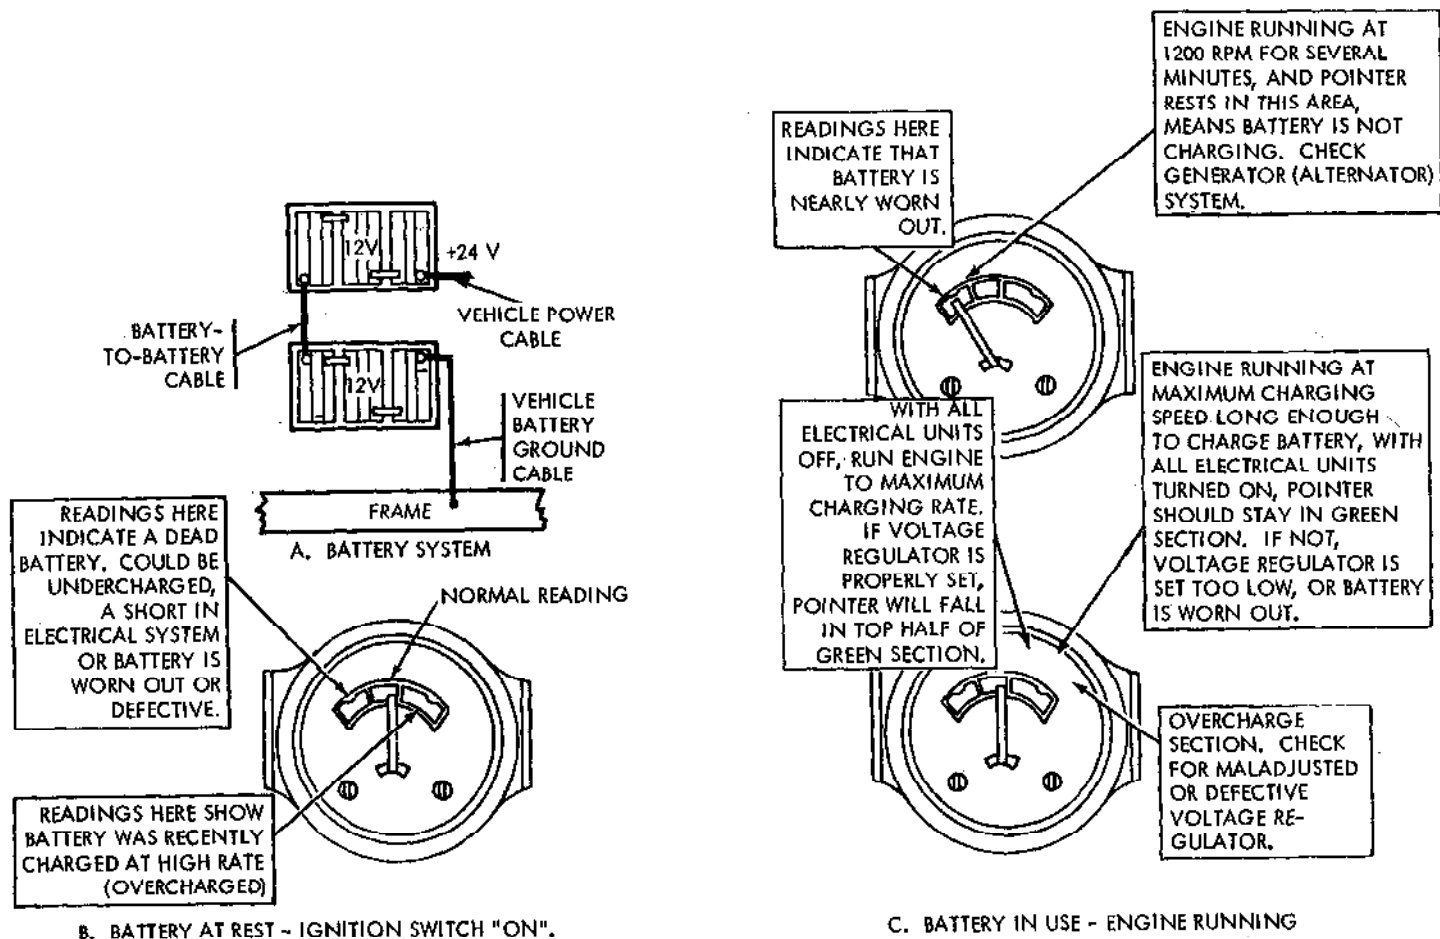

Figure 2-15. Interpretation of battery-generator indicator gage.
a. Preliminary Battery Check. The vehicle battery condition should be checked prior to performing any electrical checks in the vehicle. The vehicle has two 12-volt batteries connected in series, furnishing 24 volts to the electrical system (fig. 2-15) which uses a negative (—) ground and a positive (+) power feed to the electrical components. To test the battery condition, turn the ignition switch to ON (without starting the engine). Observe the battery indicator (fig. 2-15). Start the engine, accelerate to about 1200 rpm, and again observe the battery indicator. If the indicator observations show that further tests are required, refer to the Electrical Troubleshooting tests, Battery System (fig. 2-17).
(1) Hold the hydrometer vertically, so the float does not touch the sides of the glass barrel. Be certain that the barrel is not so full of electrolyte that the float is stopped at the top. Read straight
DESCRIPTION:	<p>The 25-ampere dc generator electrical system consists of the following components: Battery-generator indicator, 25-ampere dc generator, generator regulator, charging circuit insulated cable, main wiring harness, battery ground cable and engine-to-frame ground strap. The circuit is energized by mechanical rotation of the generator. As the dc voltage builds up, the reverse current relay closes and supplies current to the battery through the current relay coil in the regulator. The voltage relay coil measures the voltage across the battery. When the voltage rises to more than 28 volts, the generator output is reduced by varying a resistance in the generator field coil circuit. When the engine slows down and the generator voltage falls substantially below the battery voltage, the reverse current relay disconnects the generator from the battery. The charging status of the generator is indicated by the battery-generator indicator (fig. 2-15).</p>